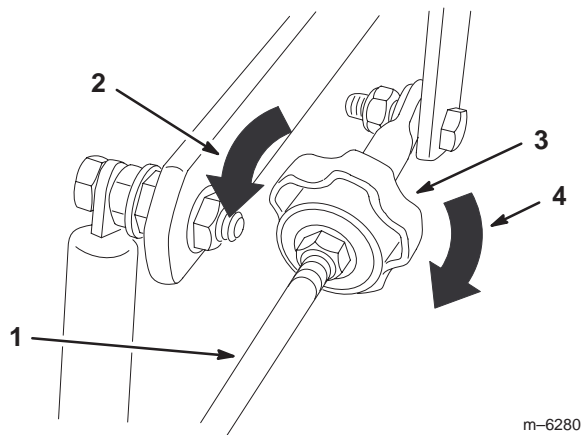

Figure 57
4. To make the machine go right, turn the knob towards the rightside of the machine. Refer to figure 57.
5. To make the machine go left, turn the knob towards the leftside of the machine. Refer to figure 57.